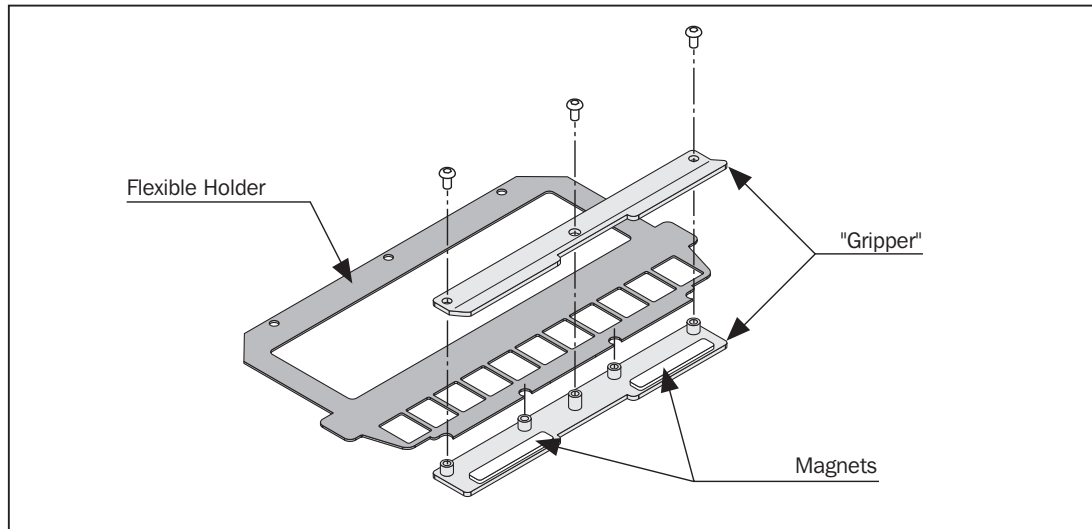

Figure 6.2: Original Loader assembly
7. Dismount the "gripper" by removing the 3 allen screws (see Figure 6.2).